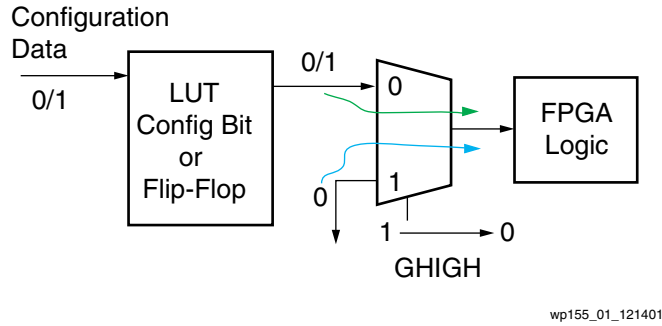
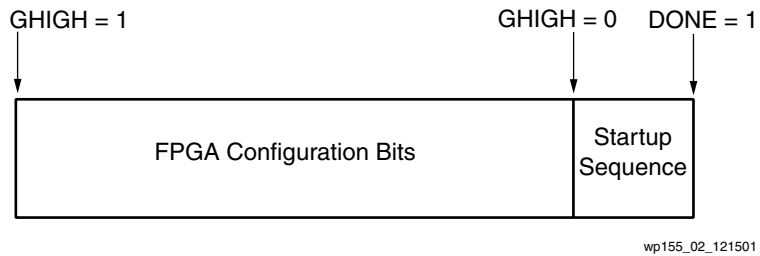

Figure 1: Normal Bitstream Loading Sequence
Figure 2: An example of How FPGA Logic is Configured
**Figure 1** and **Figure 2** describe the normal loading configuration sequence. The GHIGH signal is used during configuration to disable input pins and to keep the FPGA logic in a known, static state.